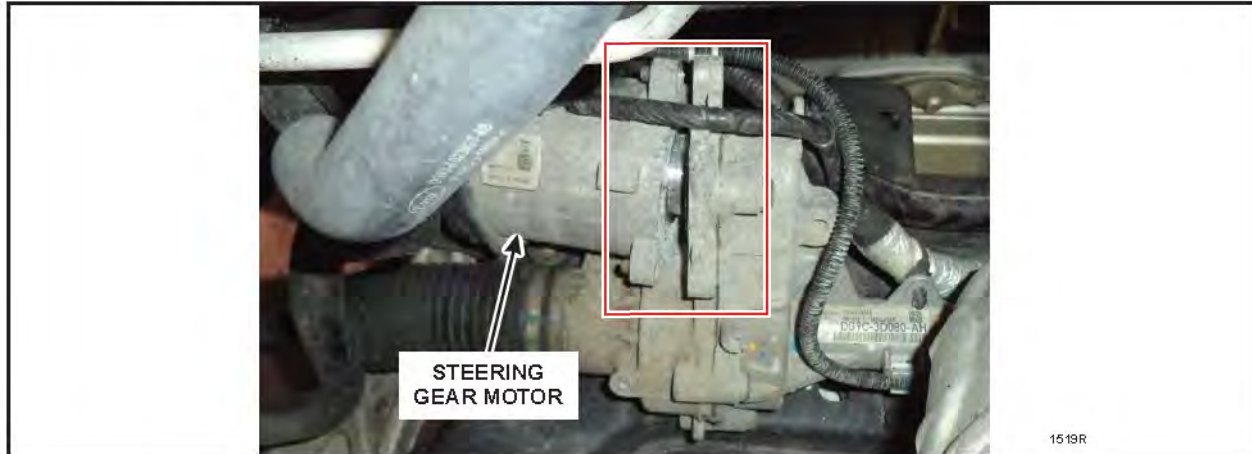

FIGURE 6
1. Inspect the steering gear motor for signs of separation, broken or missing bolts. See Figure 6.